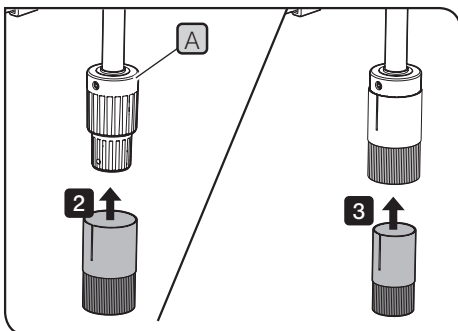

Fig.27A
**Stage knob extension adapter (BX3-SHEA) (Fig.27A)**